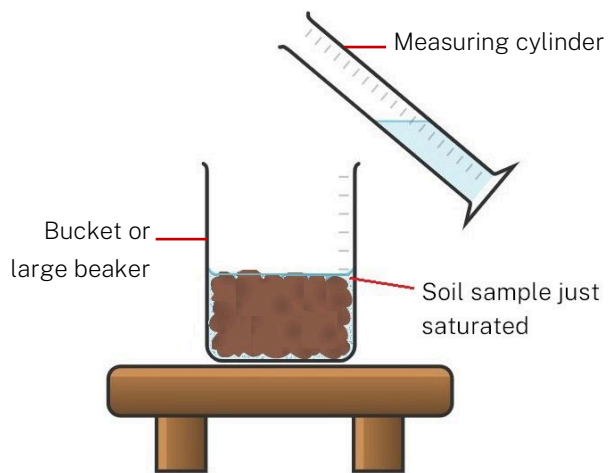

Figure 17 Saturating soil sample
6. Saturate the sample with water- carefully add enough water to fill all soil pores, without excess water above the soil sample surface. See Figure 17.